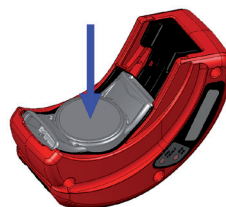

Figure 1
1. With the Strap Fitting Lever closed, click the PID into the tool. **(Figure 1)**